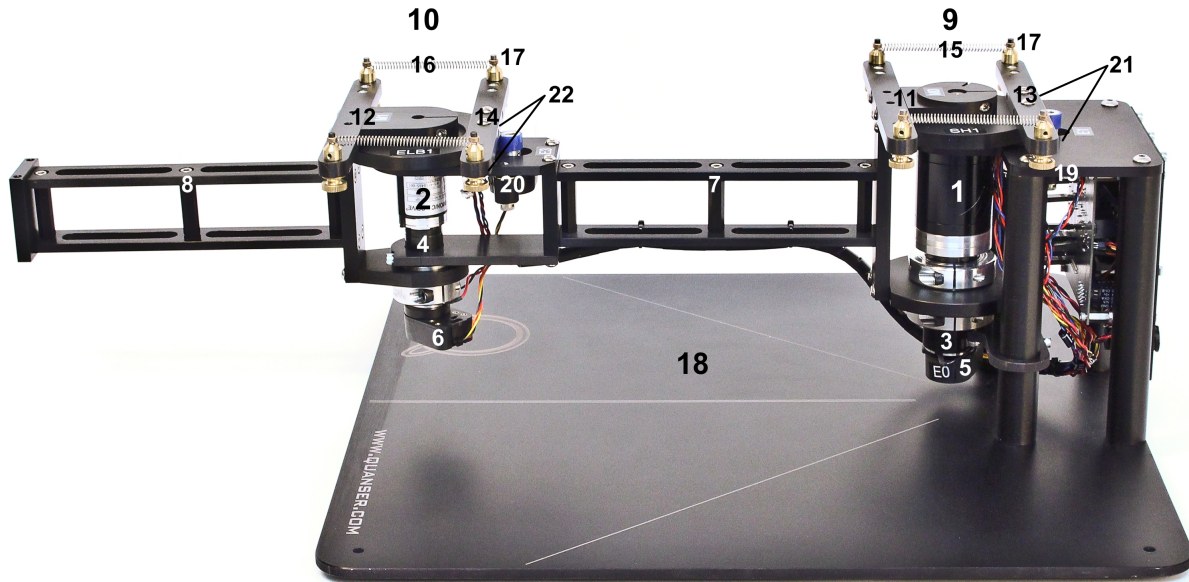

Figure 2.1: 2-DOF Serial Flexible Joint Robot
Table 2.1 provides a list of all the principal elements of the 2-DOF Serial Flexible Joint Robot plant. Every element is located and identified, through a unique identification (ID) number, as represented in Figure 2.1.